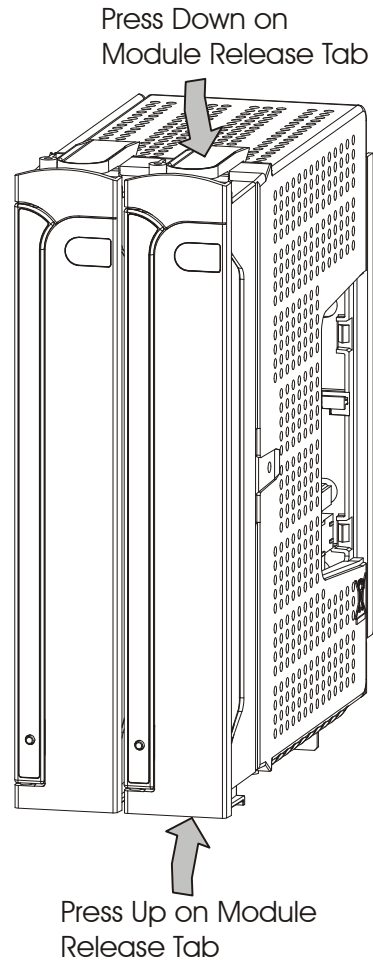

Figure 29-1 ACE3600 Module Release Tabs
3. Simultaneously press on the tabs on the top and bottom of the plastic front of the old module, and pull the module from its slot. See Figure 29-1.